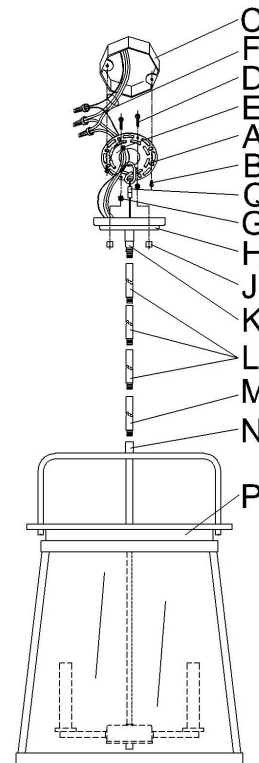

Fig.2
CONNECTING THE WIRES (Fig. 2)
8. Connect the electrical wires as shown in Fig.2, making sure that all wire connectors are secured. If your junction box has a ground wire (green or bare copper), connect the fixture's ground wire to it. Otherwise, connect fixture's ground wire directly to circular strap (A) using green screw provided.